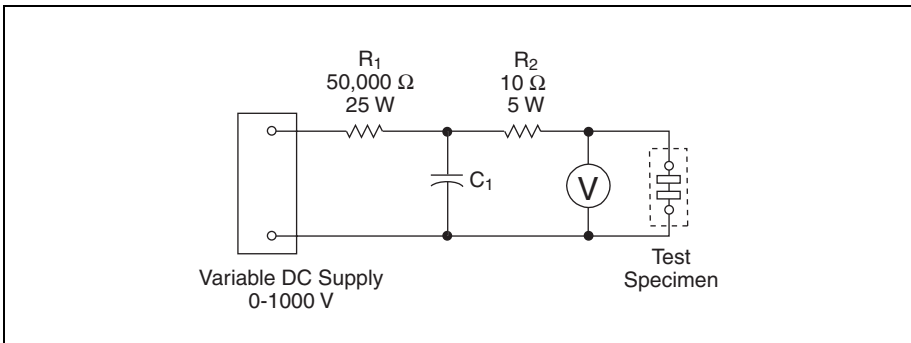

Figure 4.10 UL 497A Breakdown Voltage Measurement Test
2. Breakdown Voltage Measurement Test — Secondary protectors must break down within  $\pm 25\%$  of the manufacturer's breakdown rating when tested in each polarity with a rate of voltage rise no greater than  $2000 \text{ V/s}$ . The secondary protector is to be mounted in accordance with the manufacturer's installation instructions and then subjected to the test circuit shown in Figure 4.10. This requirement applies only to secondary protectors connected between Tip and Ring or Tip/Ring and Ground of the telephone loop.